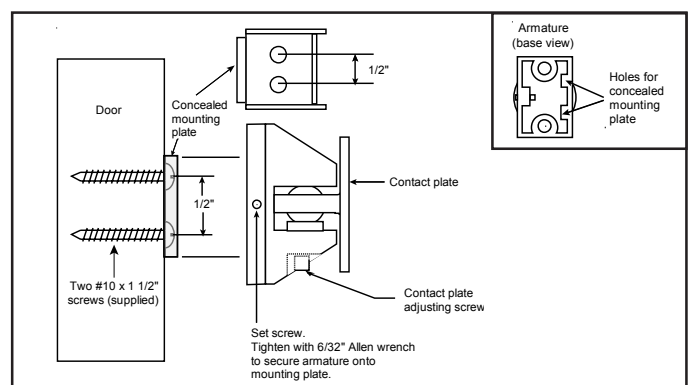

Figure 6. Surface Concealed Mounting
- b. **Surface concealed mounting (Figure 6).** Measure two points for 1/8" holes drilled 1/2" on center equidistant from each marked point. Center punch the holes and drill 1/8" diameter x 1 1/4" deep. Install the concealed mounting plate using the two #10 x 1 1/2" screws provided.
Align the holes for the concealed mounting plate in the armature base with the pins on the concealed mounting plat. Secure the armature assembly, with the contact plate adjust screw facing down, to the door by tightening the set screw as shown in Figure 6.